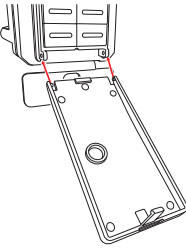

Figure 1
2. Find the light almond door. Align the bottom of the door with the hinges on the bottom of the timer. Push in one of the sides of the door into the timer hinge, it will snap into place. Snap in the second side of the door to the timer. **See Figure 1**